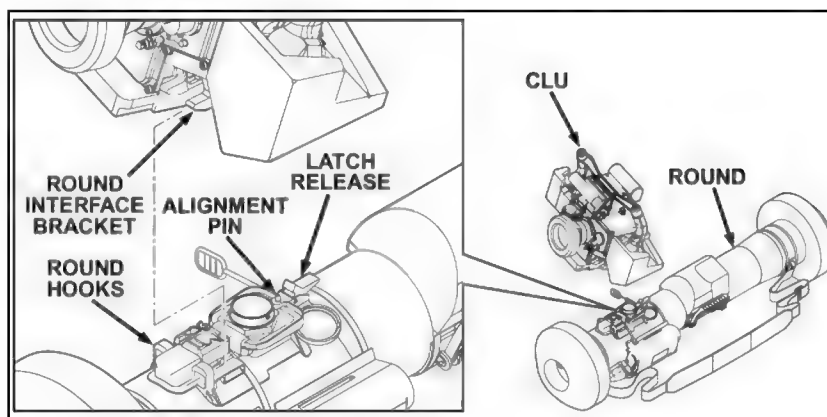

Figure 2-36. Disconnect the CLU from the round.
(1) To disconnect the CLU from the round, depress the latch release on the round (Figure 2-36).
(2) Using the handgrip, lift up and rotate the CLU toward the forward end cap. The CLU rotates away from the round interface connector and the round hooks.
(3) Reinstall the connector covers on the interface connectors on the CLU and on the round. If the seeker was activated, replace the BCU.
(4) Place the CLU in the CLU carry bag with the handgrips up and the eyepiece toward the back of the carry bag.